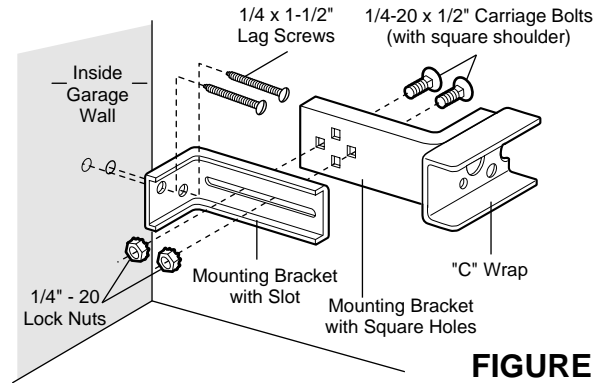

FIGURE 3
- Connect each assembly to a slotted bracket, using the hardware shown in Fig. 3. **Note alignment of brackets for left and right sides of the door.**
- Use bracket mounting holes as a template to locate and drill (2) 3/16" diameter pilot holes on both sides of the garage door, 4"-6" above the floor (but not exceeding 6").
- Attach bracket assemblies with 1/4"x1-1/2" lag screws as shown in Fig. 3.